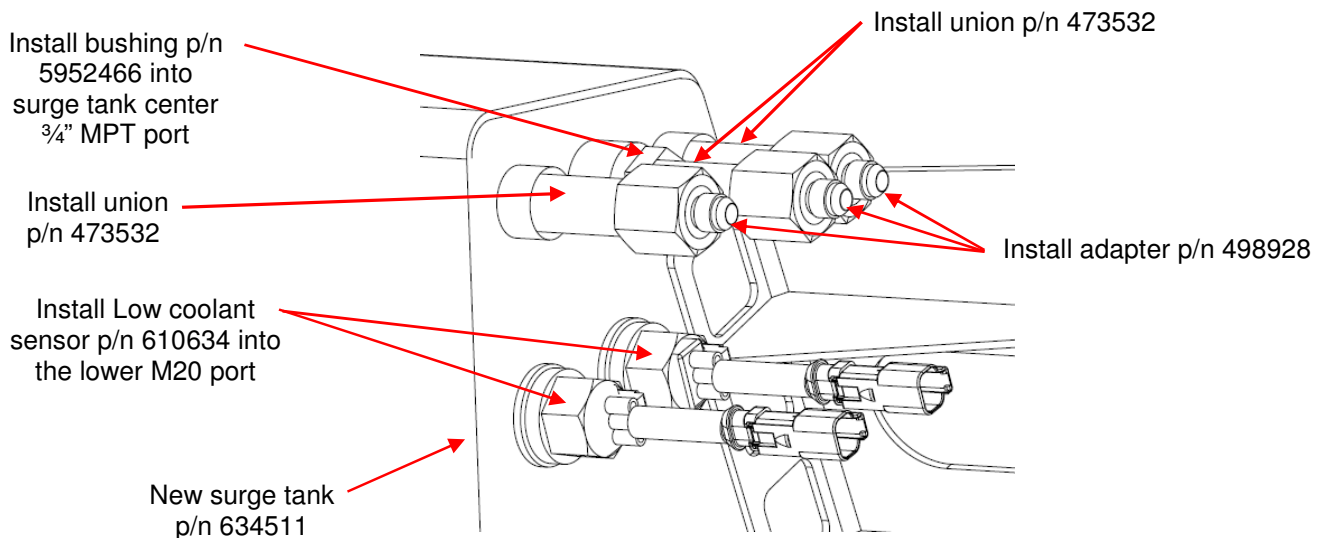

Figure 9: Partial Surge Tank Assembly
- a. Install bushing p/n 5952466 into surge tank center $\frac{3}{4}$ " MPT port as per Step 19. See Figure 9.
- b. Install union p/n 473532 (x3) into newly installed bushing from Step 14a and open $\frac{1}{2}$ " FPT ports (x2) as per Step 19. See Figure 9.
- c. Install adapter p/n 498928 (x3) onto the newly installed unions from Step 14b as per Step 19. See Figure 9.
- d. Install Low coolant sensor p/n 610634 (x2) into the M20 ports. Torque sensors to 14-16 ft*lbs dry, orientation is not important. See Figure 9.